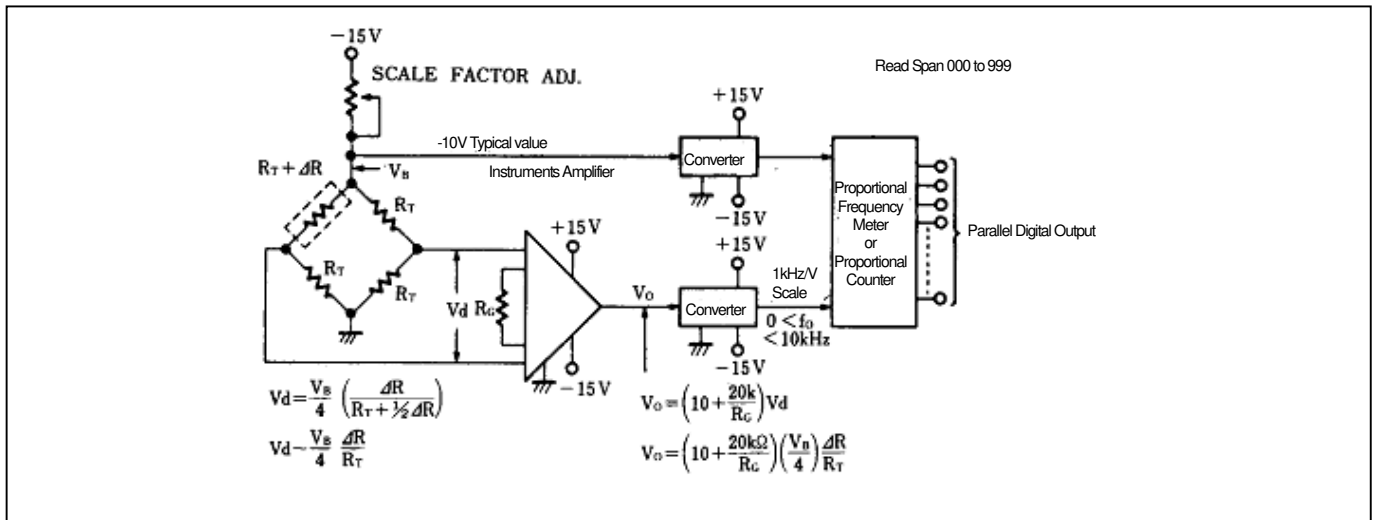

Figure 12. Proportional meter system
The accuracy of the systems is better on used proportional method, for measurement equipment. Use the NJM4151, Figure 12 shows the proportion by weight measurement system. First, the strain gauge bridge circuit, and the cells of weight detecting detect the weight. Then generates a difference voltage. The Difference voltage (VD) for the converting bridge approximated  $V_B \Delta R / R_T$  in a small range of resistance changes of strain - gauge. Necessary information is  $\Delta R / R_T$  and the voltage (VB) across the bridge must be stable. Instrumentation - amplifier amplify the low input differential voltage (VD). It is used to eliminate the common mode input voltage. The voltage across the bridge (VB) converted to frequency (fB). Then, the output voltage amplitude (V0) converted to frequency (f0). Hereby, ADC is designed for proportional meter. The voltage across the bridge converter is 1Hz / V. Amplifier voltage converter is 1kHz / V conversion factor. Proportional counter and frequency meter type of proportional will be used to convert frequency ratio f0/fB. The first advantage of conversion technology by the proportional method is that it is independent of the voltage across the bridge. Frequency (fB) is proportional to the bridge voltage (VB). Output frequency (f0) is proportional to the VB. f0/fB is independent of VB, only proportional to  $\Delta R / R_T$ .